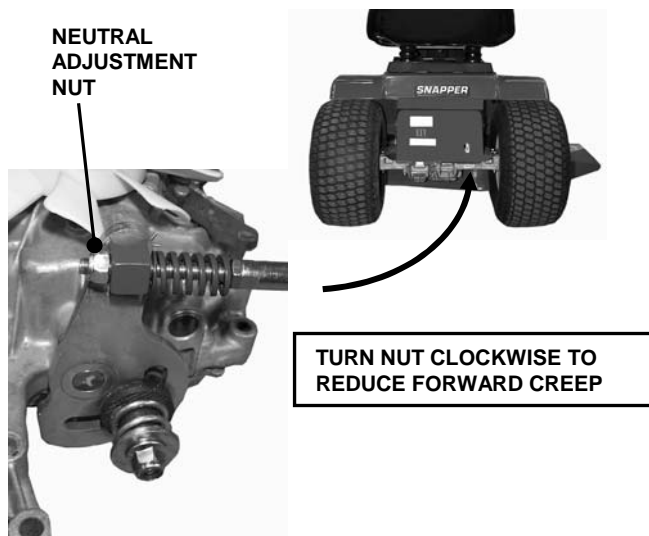

FIGURE 4.15
3. Locate neutral adjustment nut underneath the right rear of the tractor. See Figure 4.15